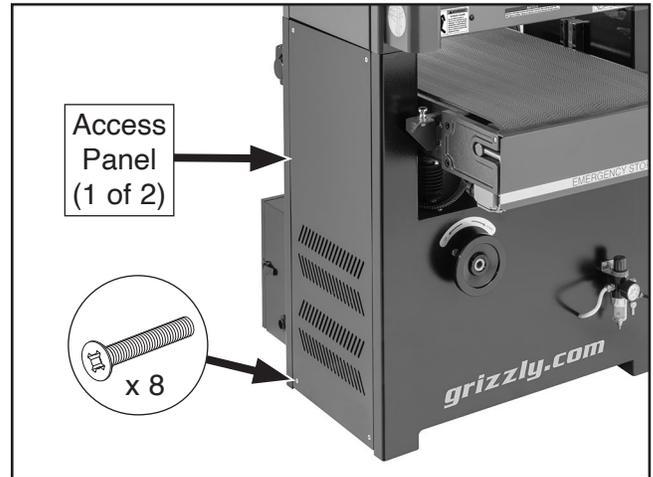

Figure 108. Location of access panels and securing screws.
- Remove (8) screws shown in **Figure 108** to remove access panels.